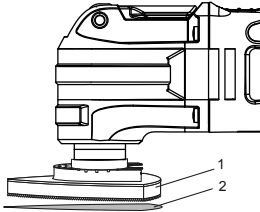

Figure 2
1. Install the hook and loop sanding pad (1) onto the tool. (Figure 2)